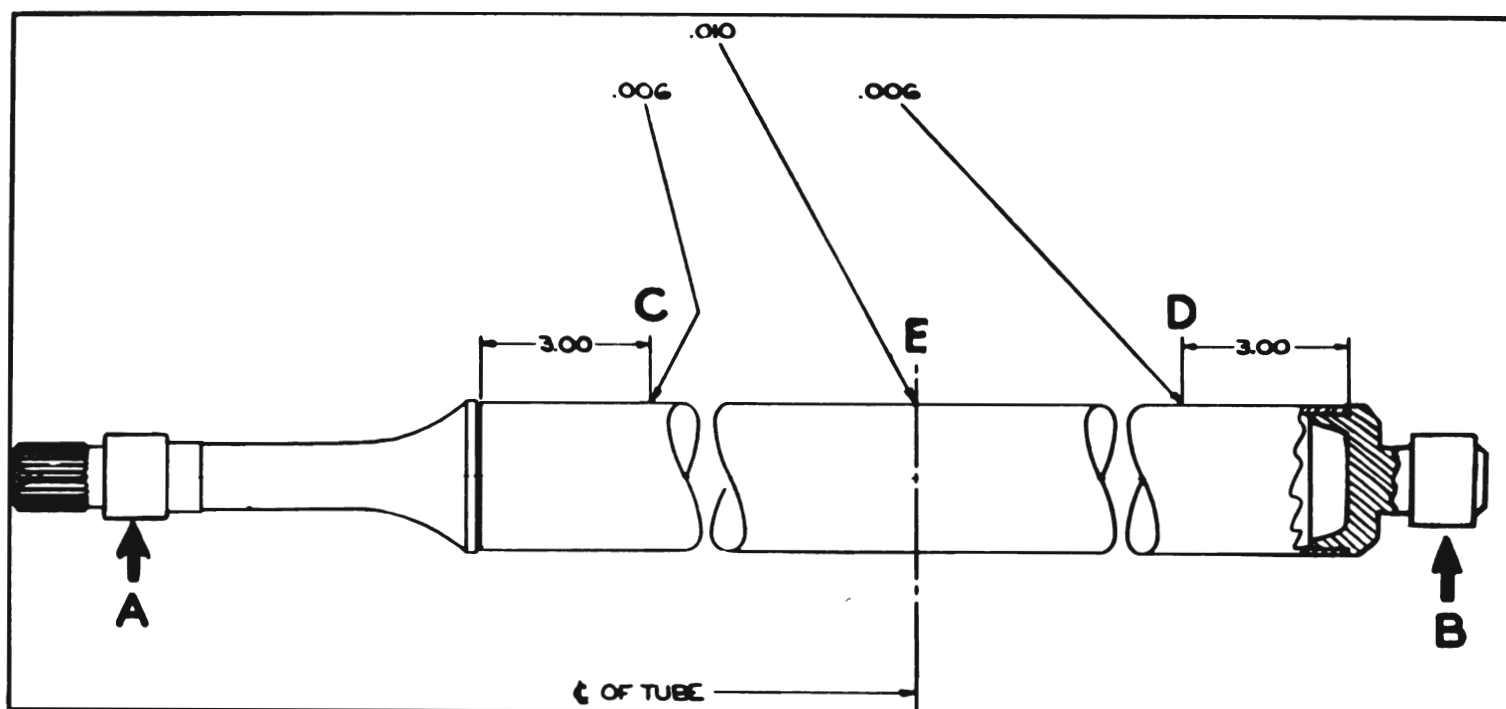

Figure 6-15—Front Propeller Shaft Run-Out Specifications
1. Support front of propeller shaft on a V-block placed under the seal sleeve at "A." To provide a bearing surface, slip an extra seal sleeve over splines of rear coupling; then support rear of propeller shaft on a V-block placed under this sleeve at "B." See figure 6-15.